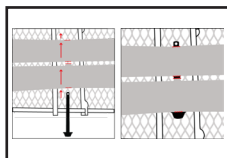

Figure 3
4. When the bolt is fully through, use the clip to turn the bolt so the small hole is facing upwards (Figure 3). Push the clip through the hole (Figure 4).